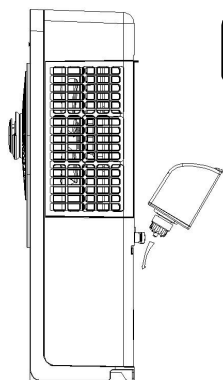

Figure 1
- Fill the water tank and then install the tank. Make sure the tank is secured (Figure 1).